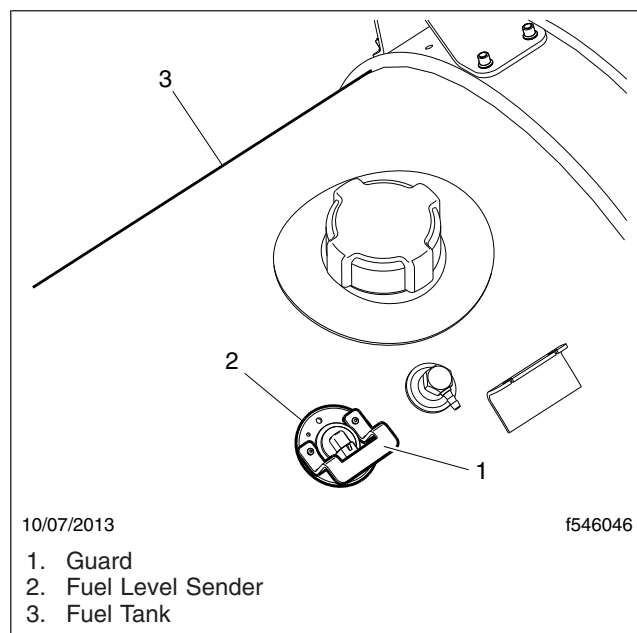

Fig. 1, Fuel Level Sender Guard Installation
2. Remove two of the five fuel level sender mounting screws. Make sure that the two screws removed are horizontally aligned, and will allow for the lip of the guard to be oriented away from the vehicle. See Fig. 1.